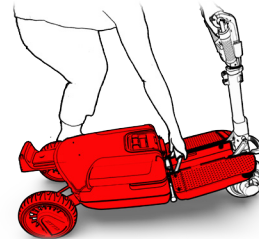

Figure 10
8. Gently move the handle down until ATTO is flat (see Figure 10).